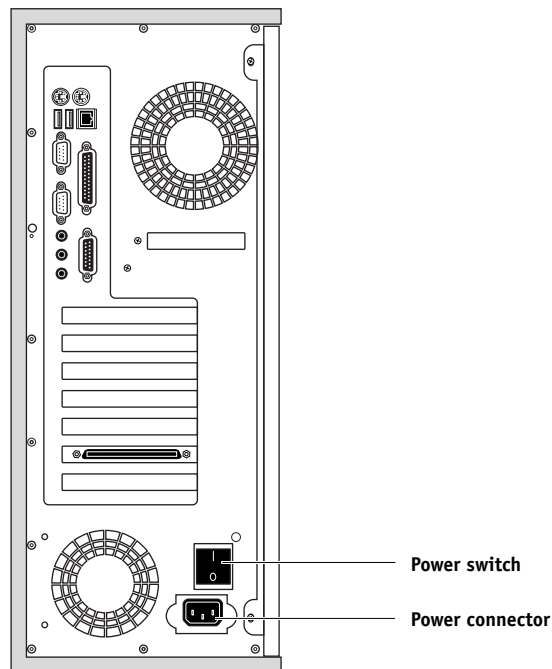

FIGURE 3-1 E-810 power
1. Connect the E-810 power cable to the power connector at the back of the E-810 (see Figure 3-1 below).